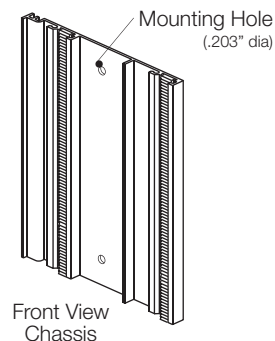

Fig. 5
Step 3. Loosely position the chassis on the wall surface and ensure it is level. (ref Fig 5)